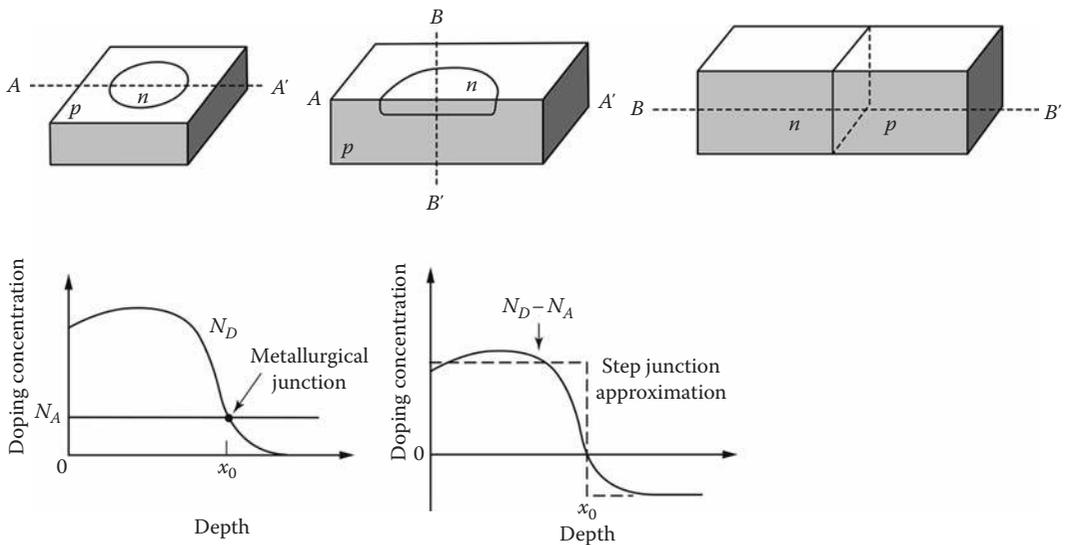

FIGURE 8.6
We'll start with the simplest embodiment of a *pn* junction—the *pn* "homojunction." Homojunction just means that within a single piece of semiconductor (e.g., silicon), we have a transition between *p*-type doping and *n*-type doping (e.g., *p*-Si/*n*-Si). The opposite would be a *pn* heterojunction, in which the *p*-type doping is in one type of semiconductor (e.g., *p*-GaAs), and the *n*-type doping is within another type of semiconductor (e.g., *n*-AlGaAs), to form a *p*-GaAs/*n*-AlGaAs heterojunction. More on heterojunctions later. As shown in Figure 8.6, there are several ways to build *pn* junctions. I might, for instance, ion implant and then diffuse *n*-type doping into a *p*-type wafer. The important thing is the resultant "doping profile" as you move through the junction [$N_D(x) - N_A(x)$, which is just the net doping concentration]. At some point we have $N_D = N_A$ and thus a transition between net *n*-type and *p*-type doping. This point is called the "metallurgical junction" (x_0 in the figure), and all of the action is centered here. To make the physics easier, two simplifications are in order: (1) Let's assume a "step junction" approximation to the real *pn* junction doping profile; which is just what it says, an abrupt change (a step) in doping occurs at the metallurgical junction (Figure 8.6). (2) Let's assume that all of the dopant impurities are ionized (one donor atom yields one electron, etc.). This is an excellent approximation for common dopants in silicon at 300 K.